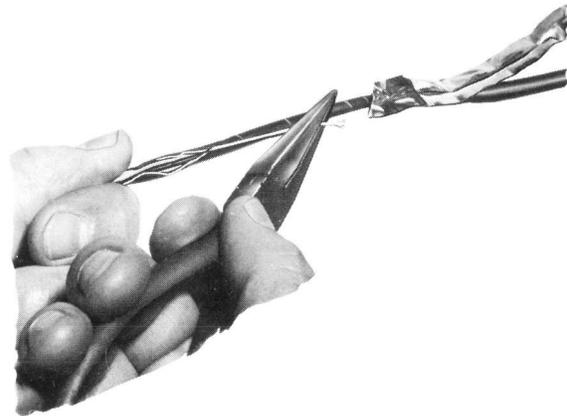

Fig. 2 — Slitting Inner Jacket, Using Slitting Cord
(3) Unwind the aluminum tape to the end of the outer jacket. If the free end of the tape lies under the preceding wrap, it can be released by twisting the entire wire opposite to the lay of the tape near the free end. This will cause the tape to bulge so that it can be grasped with long nose pliers.
(4) Slit and remove the inner jacket for a distance of 4 inches from the end of the wire, as shown in Fig. 2, using the procedures in (1) and (2).